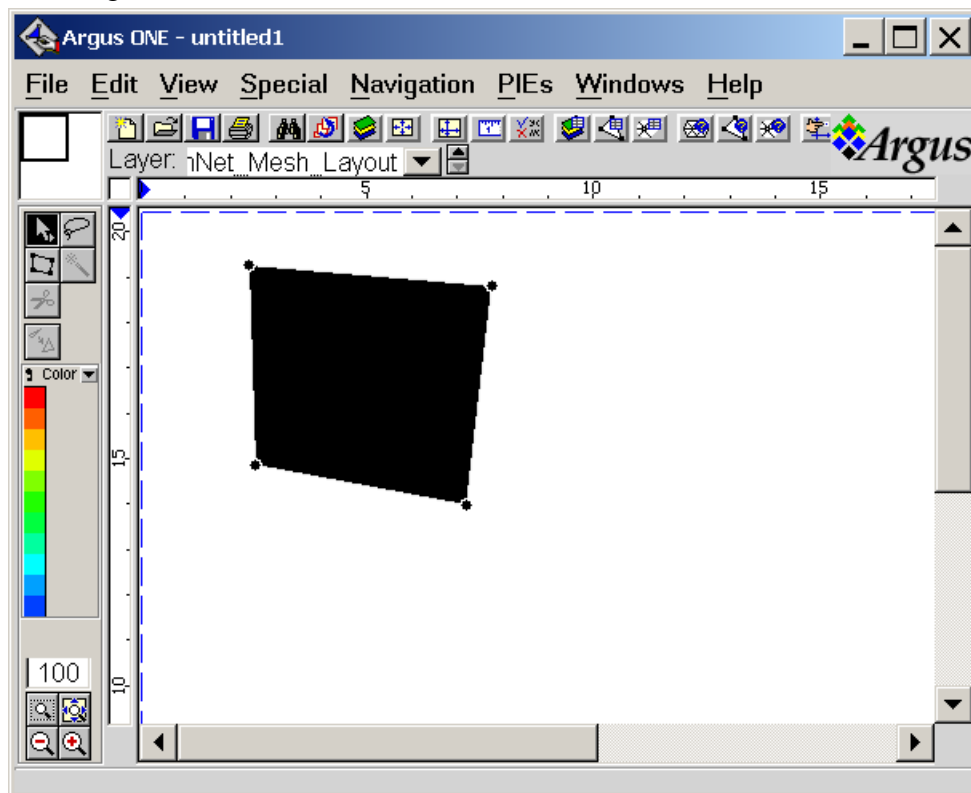

Figure 16. Example of a completed superblock.
4. Draw an element in the white work area of the window by clicking at the desired location of each corner, proceeding either clockwise or counter-clockwise around the element (fig. 16).